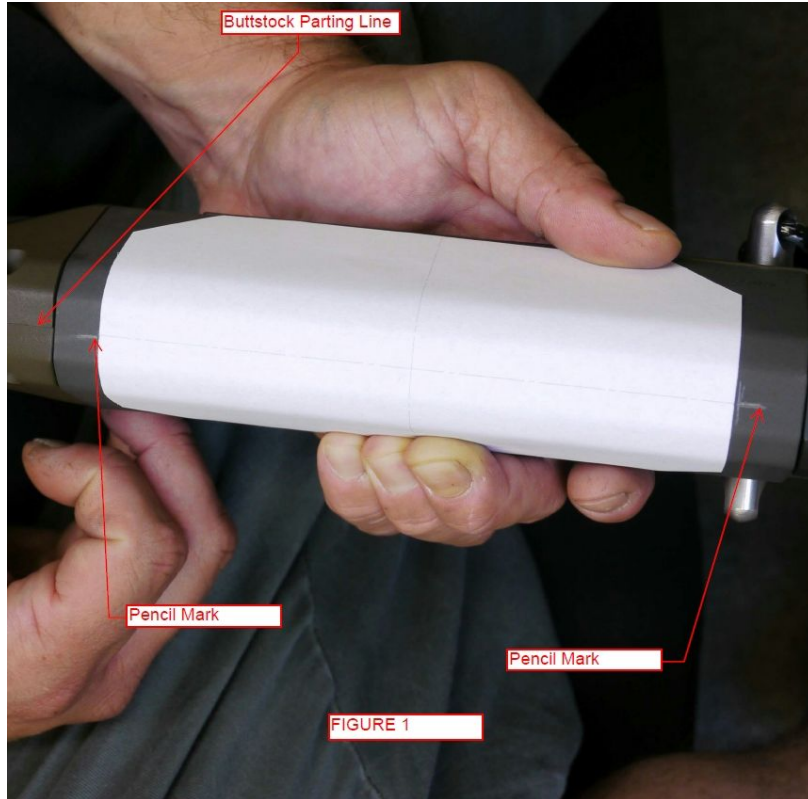

FIGURE 3
5. Starting from the center, smooth down each side one at a time careful to not stretch the pad using light even pressure, see Figure 3.